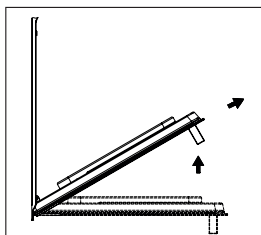

Fig.2
- Now, shutting the door slightly, you can lift it out by pulling out the hooks "A" as shown in Fig.2.